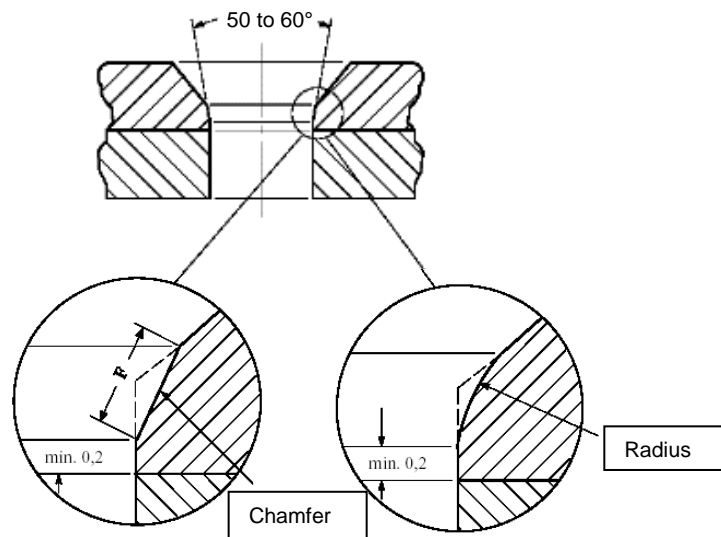

Figure 1: Transition radius / chamfer at the intersection between the hole countersink and bore and cylindrical thickness.
- 4.1.1 Countersink configuration and geometries for holes used with countersunk head fasteners are defined in AIPS01-02-003 & AIPS01-02-005. To ensure the countersink head sits correctly within the hole a chamfer or radius shall be machined at the transition between the hole countersink and bore as defined in AIPS01-02-003 & AIPS01-02-005. Generally recommended and reduced chamfer and radius dimensions are defined in Figure 1 and Table 1.
For the calculation. CFRP plies thickness as well as non-CFRP plies laid on external face (like ECF or glass fiber) should be considered, as indicated in Figure 1.